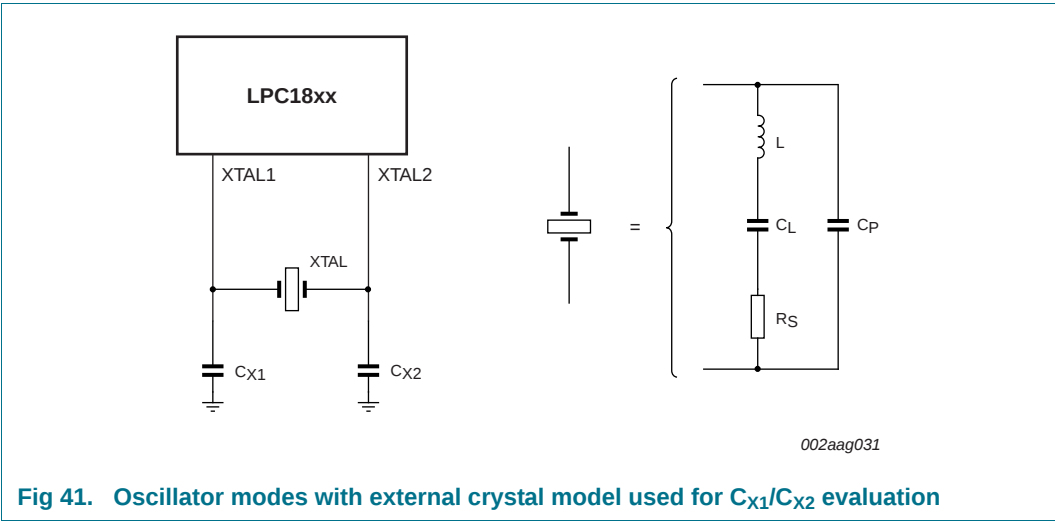

Fig 41. Oscillator modes with external crystal model used for C_{X1}/C_{X2} evaluation
- External components and models used in oscillation mode are shown in Figure 41, and in Table 39 and Table 40. Since the feedback resistance is integrated on chip, only a crystal and the capacitances C_{X1} and C_{X2} need to be connected externally in case of fundamental mode oscillation (L , CL and RS represent the fundamental frequency). Capacitance C_P in Figure 41 represents the parallel package capacitance and must not be larger than 7 pF. Parameters FC , CL , RS and CP are supplied by the crystal manufacturer.